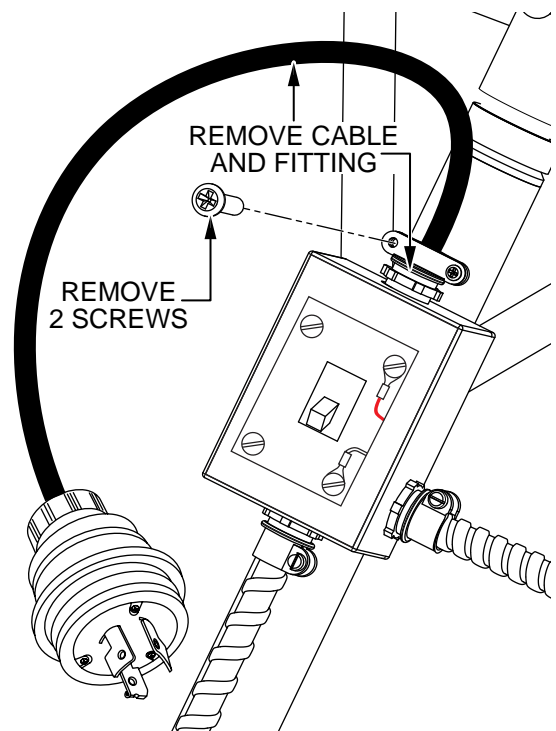

Figure 4. Remove Existing Power Cable Assembly
3. Remove the two small screws (Figure 4) securing the existing power cable fitting to the main switch box.
- Remove and discard the existing power cable and fitting (Figure 4).